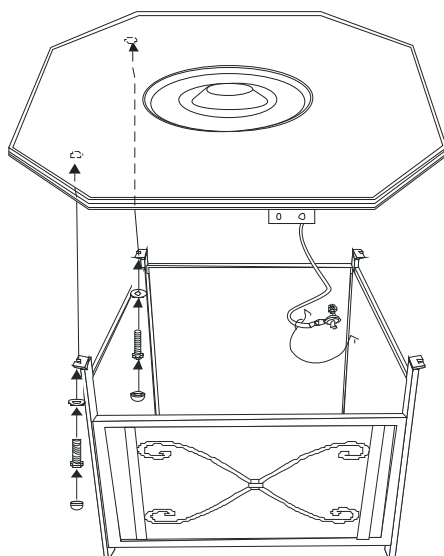

Figure 6
6. With the help of another person, carefully place the table top onto the table base. After making any necessary adjustments to the alignment of the table top and the assembled base, use four 1/4"x20 mm bolts and big washers as shown in Figure 6. Guide the bolts through the holes in the side panels, into the predrilled holes in the table top. **Do not tighten completely.**